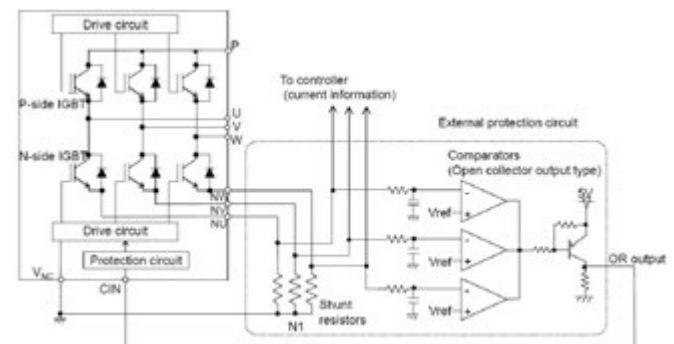

Figure 7: Using open emitter shunts for SC-protection and phase current sensing
B. For vector control the instantaneous values of inverter output currents must be monitored. By utilizing the open n-side emitters in DIIPM+™ the inverter phase currents can be measured by shunts in each phase. The same shunt signals can be used to for tripping the DIIPM+™ short circuit protection (see Figure7). In this way the higher cost for additional AC-current sensors in each inverter output can be avoided.